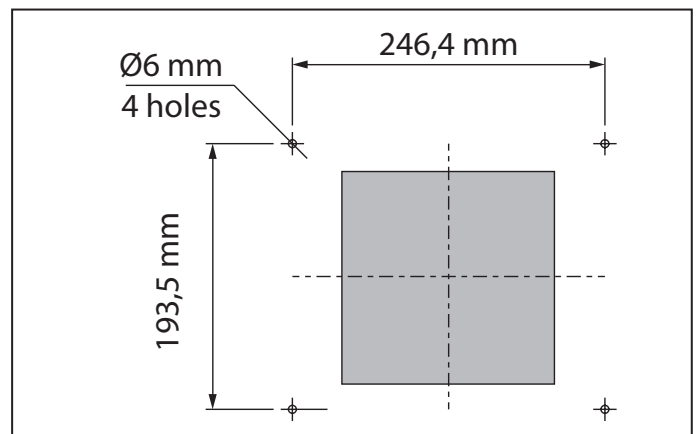

Fig. 15b.
- Abb. 15b – for VENTO V50-1 S.